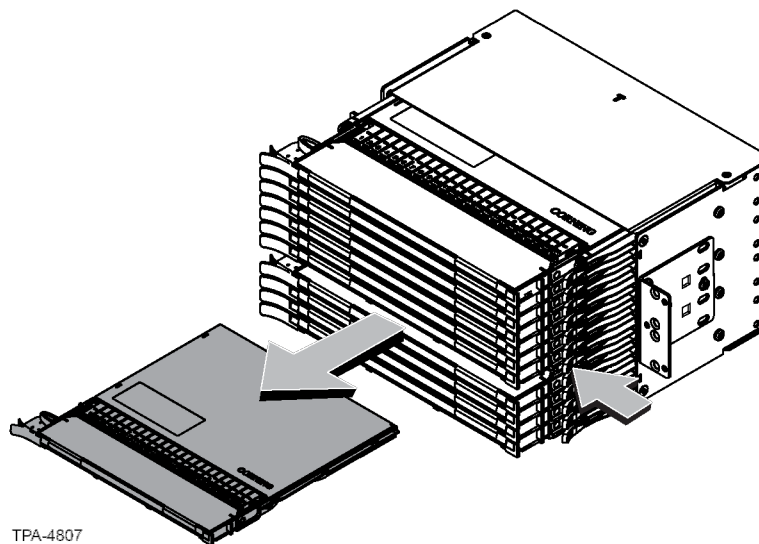

Figure 66
- Step 1: Press the latch on the right side of the cassette and pull the cassette completely out of the housing (Figure 66) to access the pigtails.